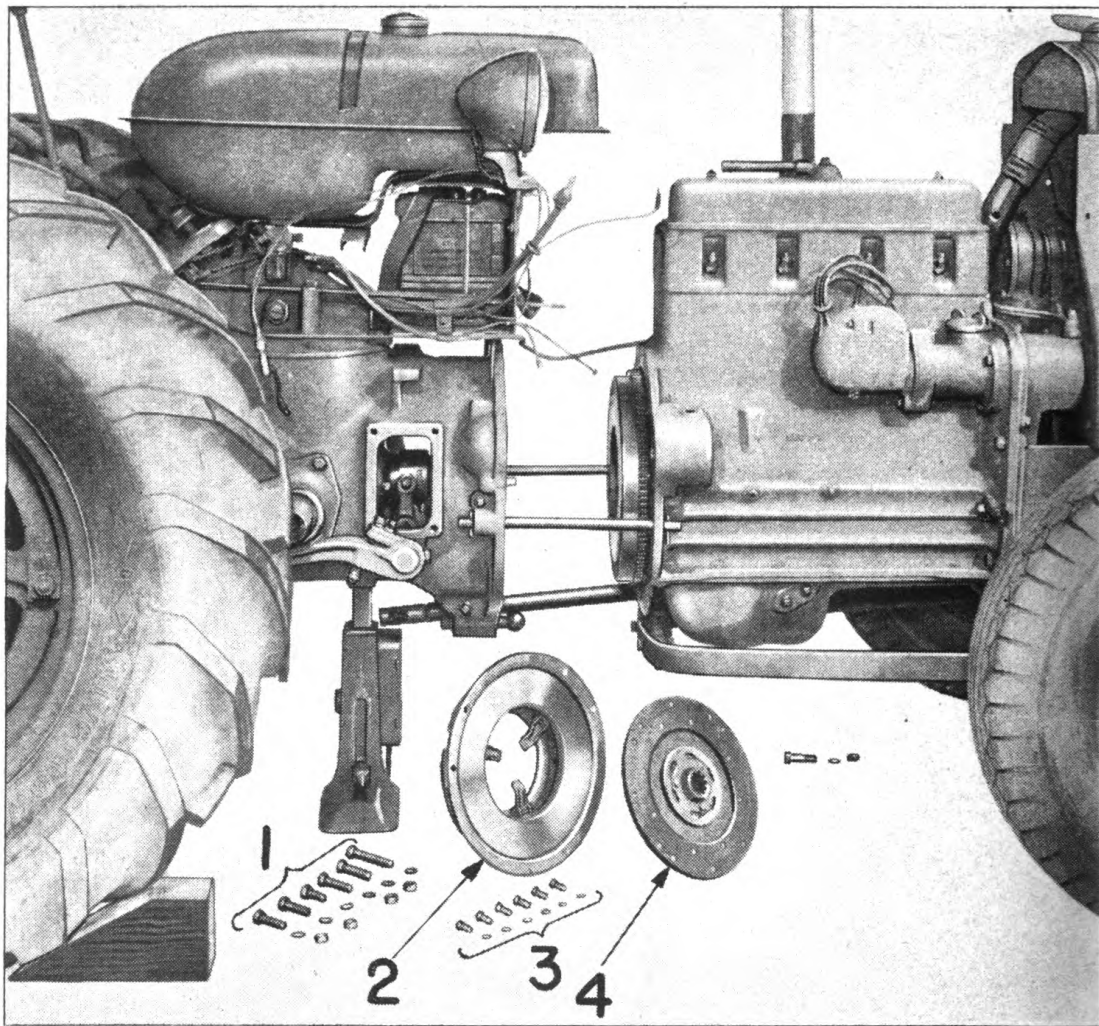

Fig. 72. Tractor Split and Clutch Removed
21. Using bar press down on radius rod and push motor forward approximately  $9\frac{1}{2}$  inches. Fig. 72